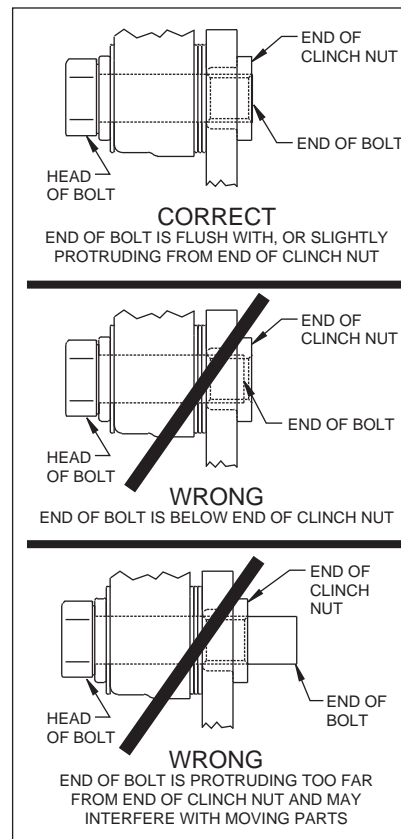

Figure 5.
**Assembly Instructions** (numbers in parenthesis refer to the part list/diagram on the preceding page): **CAUTION:** All mounting bolts must fully engage insert nuts. Be sure to check that all bolts are either flush or protruding through flanged side of insert nut after shimming, Figure 5.
- With the slot pointing upward and the mounting ears pointing towards the rear of the vehicle, install the caliper mounting bracket (1) to the housing flange using the stock Original Equipment Manufacturer (OEM) bolts and nuts. Stock OEM hex nuts that retain the bracket (1) should be on the wheel side of the bracket. Apply red *Loctite*® 271 to the stock OEM bolt threads and torque to OEM specifications. **NOTE:** Some brackets act as the bearing retainers, while others help locate the bearing in the axle housing flange. If the stock bearing plates are still on the axle, the caliper mounting brackets (1) should be located between the axle housing flange and the bearing retainer plate. Make sure the heads of the caliper mounting bracket insert nuts are FACING OUTWARD TOWARDS THE WHEEL.
- Bolt the hat (2) to the rotor (3) using washers (4) and bolts (5). Torque bolts (5) to 180 in-lb. Safety wire bolts (5) using standard 0.032 inch diameter stainless steel safety wire as shown in Figure 5. Please refer to Wilwood's data sheet DS-386 (available at [www.wilwood.com/Pdf/DataSheets/ds386.pdf](http://www.wilwood.com/Pdf/DataSheets/ds386.pdf)) for complete safety wire installation instructions.
- Align the correct hole pattern in the hat (2) with the stud pattern on the axle flange. **NOTE:** Some OEM and after market axles come with stud sizes larger than 0.50" diameter. Verify stud size and have a qualified machine shop drill the hats to the correct size. Slide the hat/rotor assembly (2 and 3) over the wheel studs and against the axle flange face.
- NOTE:** Please reference the caution statement at the beginning of the assembly instructions. WITH THE BLEED SCREWS POINTING UP, mount the caliper (6) over the rotor (3) and onto the caliper mounting bracket (1) using washers (7) and mounting bolts (8). View the rotor through the top opening of the caliper. The rotor should be aligned in the center of the caliper. If not, adjust the caliper by using 0.032 inch shim washers (9), placing them between the caliper mounting bracket (1) and the caliper (6). Add as many shim washers (9) as necessary to achieve the correct alignment. **NOTE:** The end of the bolt must be flush with or slightly protruding from the head of the clinch nut. See Figure 5. Place spare shims (9) between washer and caliper mounting ear to achieve the proper mounting fastener configuration. Always use the same amount of shims on both the top and bottom caliper mounting bolts (8). Apply red *Loctite*® 271 to the mounting bolt threads (8), torque bolts to 30 ft-lb. Safety wire the caliper mounting bolts (8).
- Position the Wilwood disc brake pads (10) into the caliper (6) and fasten with cotter pin (11). Steel backing plate side of brake pad should face the caliper pistons.